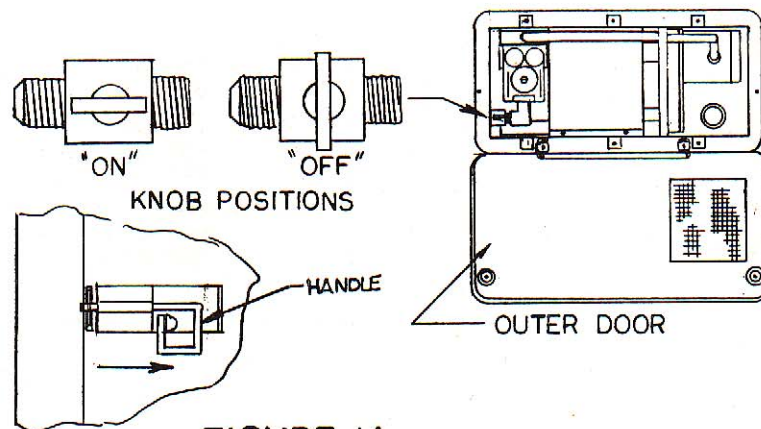

FIGURE 1A
2. Turn gas valve to "off" position. (If furnace is so equipped). Wait 5 minutes. See figure 1A (Gas valve is located behind electrical panel door. To remove, slide handle to the right and pull forward).
3. Turn gas valve to "on" position. See figure 1A. Set thermostat to "on" position and adjust to desired setting.
7. Turn gas valve knob to "off" position if furnace is so equipped. See figure 1A.